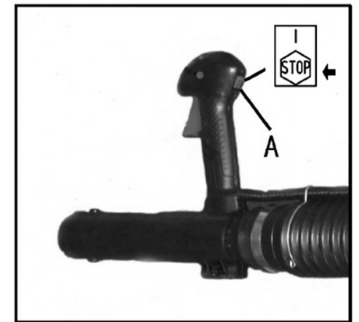

Fig. 16
When it is necessary to stop blower engine immediately, PRESS the OFF "STOP" switch (A). (Fig. 16)
For normal stopping, release trigger and allow engine to return to idle speed. Then PRESS the OFF "STOP" switch (A). (Fig. 16)